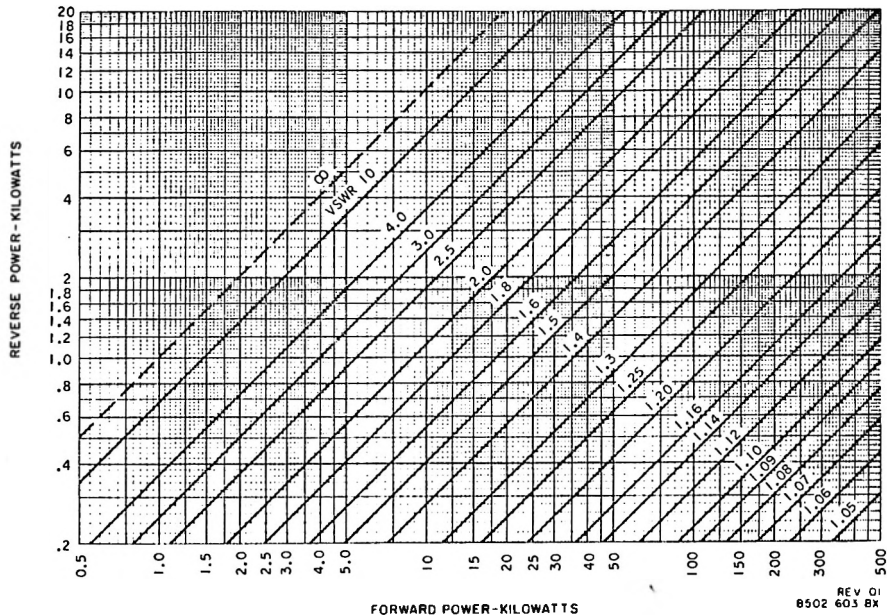

Figure 5-6. Power to VSWR Conversion Graph.
- n. Refer to figure 5-6. Check the forward and reflected power levels and determine the vswr. If the vswr exceed 2:1, check the antenna impedance.